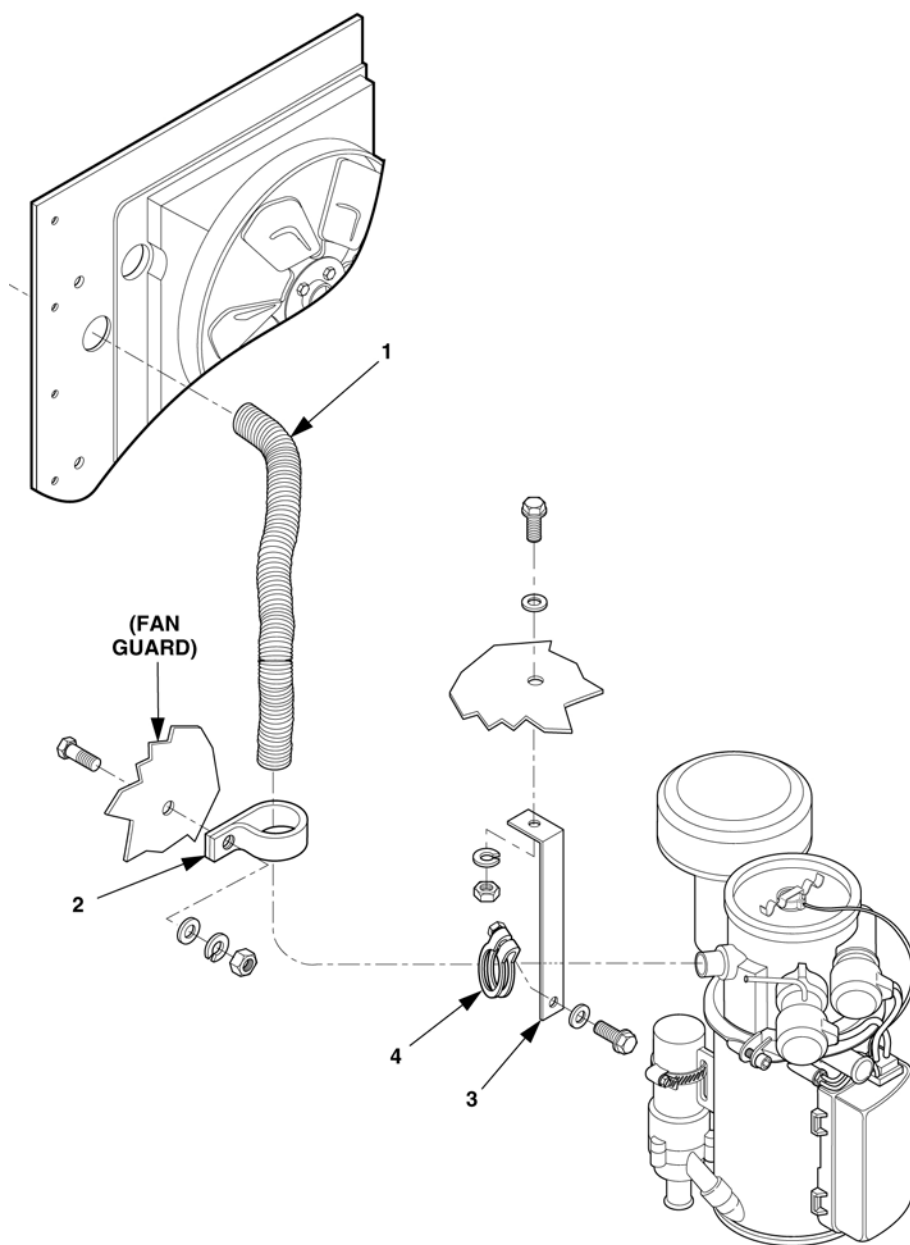

Figure 4-37. Exhaust System and Brace Removal.
17. Remove both ends of metallic hose (1), Figure 4-37, clamps (2 and 4), brace (3), and attaching hardware.